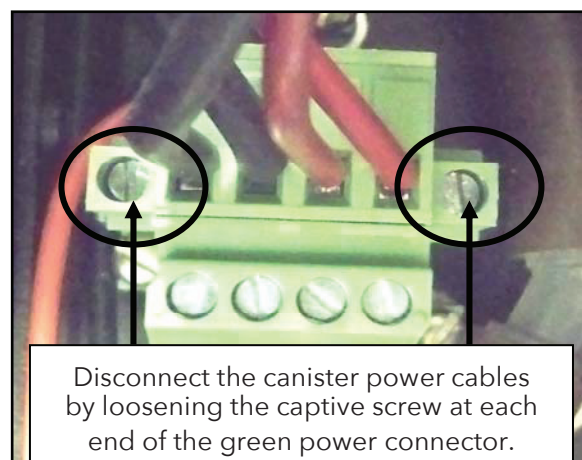

Figure 2. THE CANISTER POWER CABLE CONNECTOR.
4. Disconnect the canister power cables by loosening the captive screw at each end of the green power connector. See Figure 2.